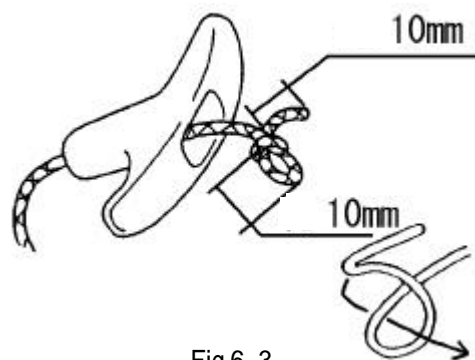

Fig.6-3
(1) Run the STARTER ROPE through the STARTER KNOB and make an overhand knot as shown in Fig.6-3. Run the STARTER KNOB at its opposite side from the STARTER CASE to the REEL, make a knot in the same way, and put the ROPE end completely in the ROPE HOUSING of the REEL. Then, apply a small amount of grease over the STARTER SHAFT and SPIRAL SPRING.